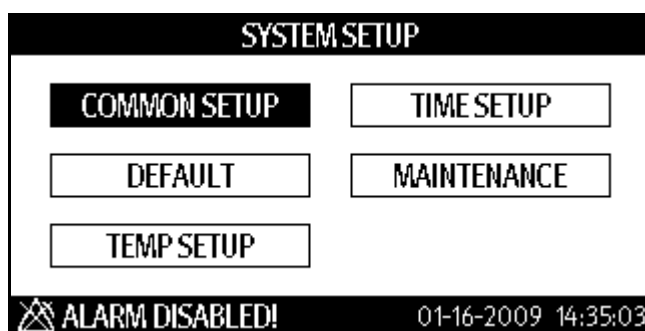

FIGURE 3-1 SYSTEM SETUP Dialog
1. Press  to display the SYSTEM SETUP dialog as shown in FIGURE 3-1.